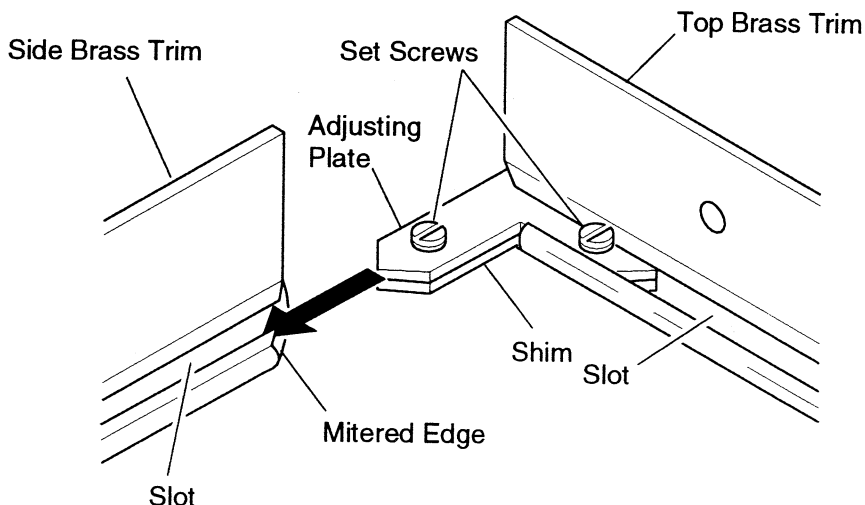

Figure 6 - Assembling Brass Trim
3. Align shim under adjusting plate as shown in Figure 6.
4. Slide one end of adjusting plate/shim in slot of top brass trim (see Figure 6).
5. Slide other end of adjusting plate/shim in slot on mitered edge of side brass trim (see Figure 6).